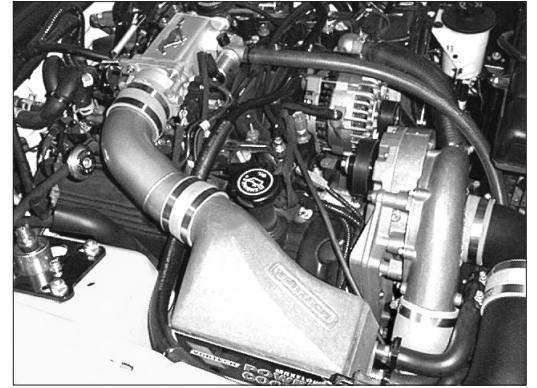

Figure 3-a
- F. Install the discharge tube between aftercooler and throttle body and secure sleeves and clamps. (See *Figure 3-a*.)